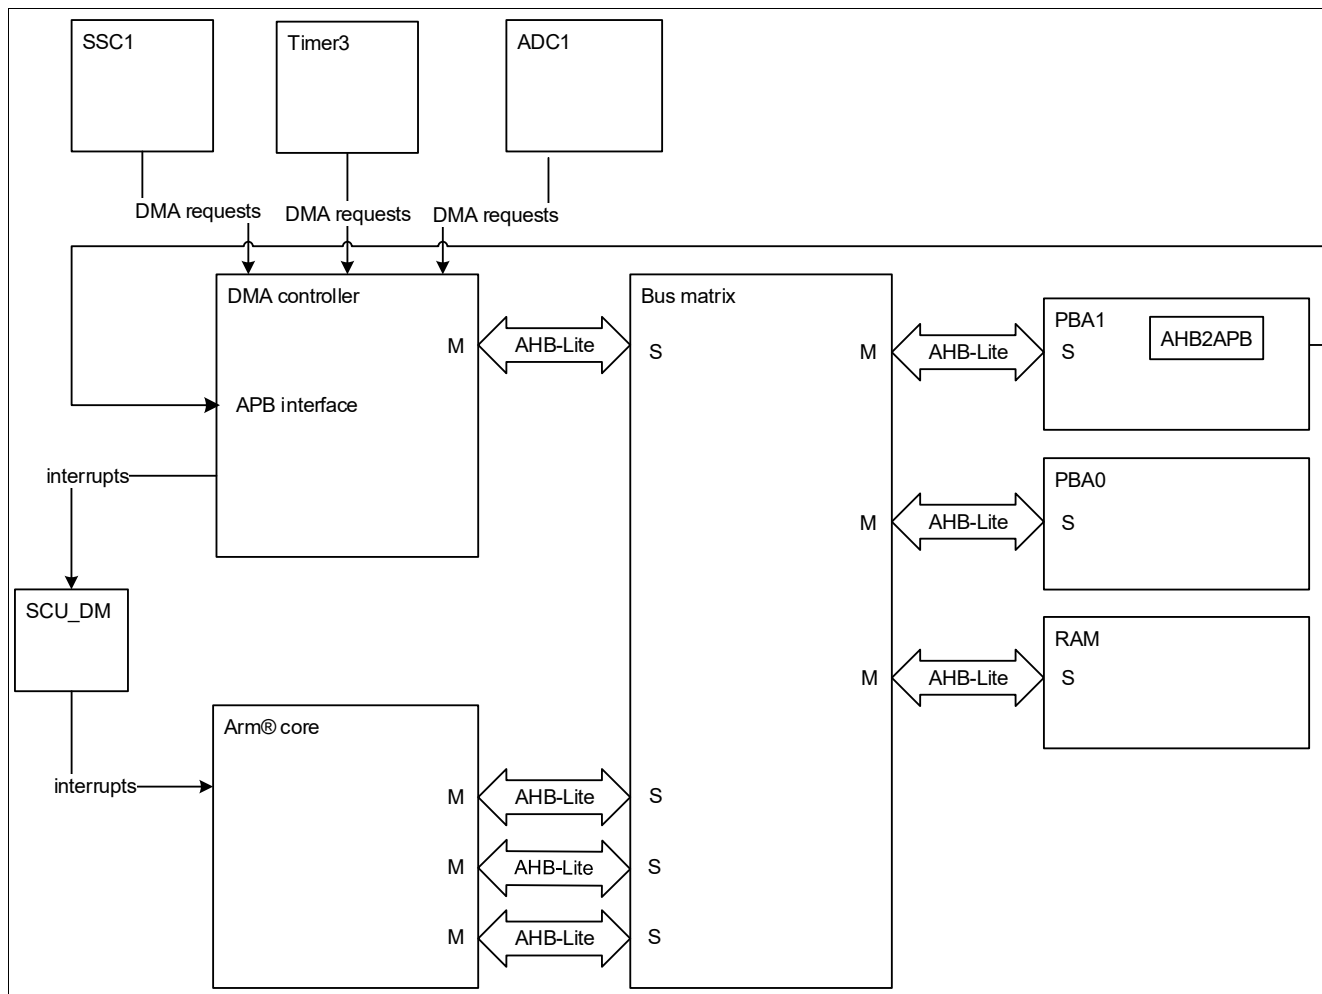

Figure 12 DMA controller top level block diagram
**Figure 12** shows the top level block diagram of the TLE9869QXA20.